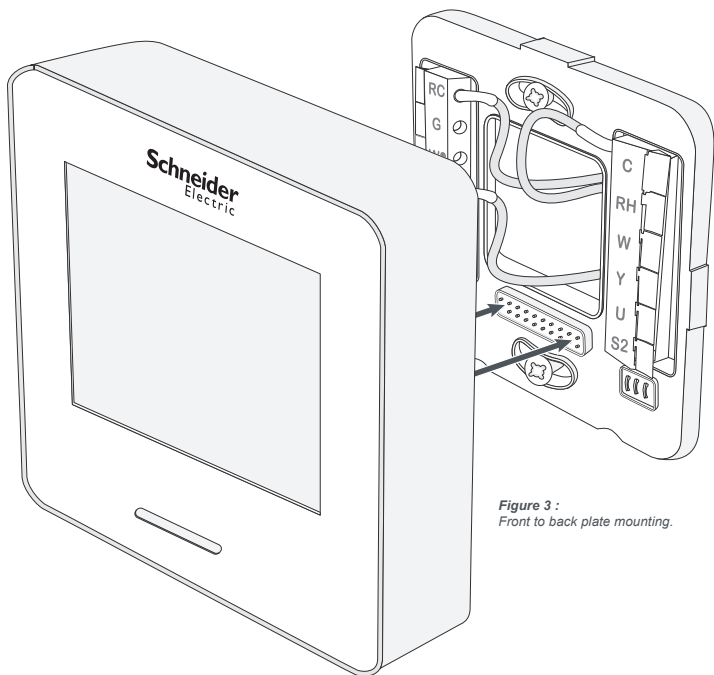

Figure 3 :
11. Attach the front of Wiser Air to the back plate, making sure that the front is oriented correctly so that the terminal pins on the front panel match the pins on the back plate. Do not use excessive force on the Wiser Air as this can damage the terminal pins (Fig. 3).